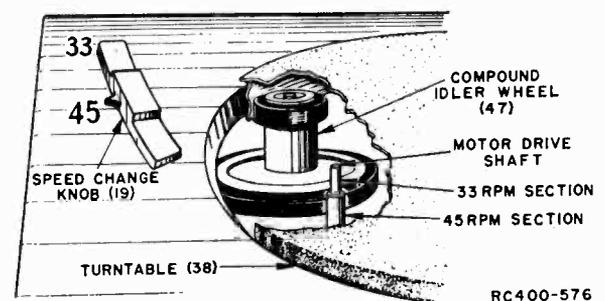

Figure 2. Compound Idler Wheel and Motor Drive Shaft.
### 45 RPM OPERATION (See Figures 2, 3 and 4)
The speed of the turntable is determined by the setting of the speed change knob (19). When the knob is in the "45" position, the larger rubber tire on the compound idler wheel (47) rides against the 45 RPM section (larger diameter) of the motor drive shaft. When the knob is moved to "33", the compound idler wheel moves so that the larger tire rides against the 33 RPM section (smaller diameter) of the motor drive shaft. See Figure 2.